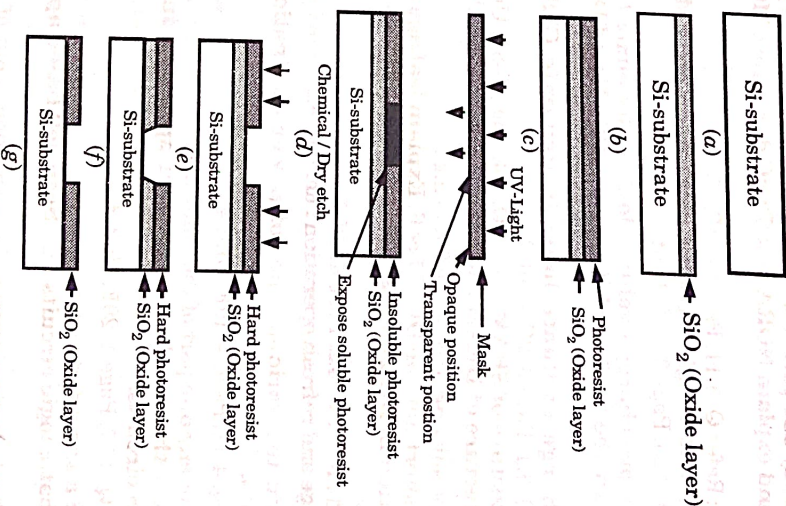

Fig. 1.
- Initially silicon substrate has to be taken as shown in Fig. 1(a).
- The sequence starts with the thermal oxidation of the silicon surface, results in growth of about 1 mm thickness of SiO_2 layer as shown in Fig. 1(b).
- The entire layer is coated with the substance called photoresist, which is a light sensitive, acid-resist organic polymer as shown in Fig. 1(c).
- To select the specified position for exposure we use mask, it allows the passage of UV light from its transparent portion as shown in Fig. 1(d).
- Following the UV exposure step, the soft portion is etched off using solvents (HF acid) as shown in Fig. 1(e).
- Now, the SiO_2 region which is not covered can be etched away by using chemical solvents shown in Fig. 1(f).
10. We obtain an oxide window that reaches down to the silicon surface, the remaining photoresist can now be stripped from rest of SiO_2 surface by using another solvents as shown in Fig. 1(g).